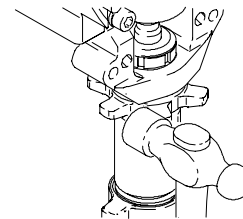

Fig. 17 7673B
6. Fig. 17. Loosen locknut by hitting firmly with a 20 oz (maximum) hammer. Unscrew pump.